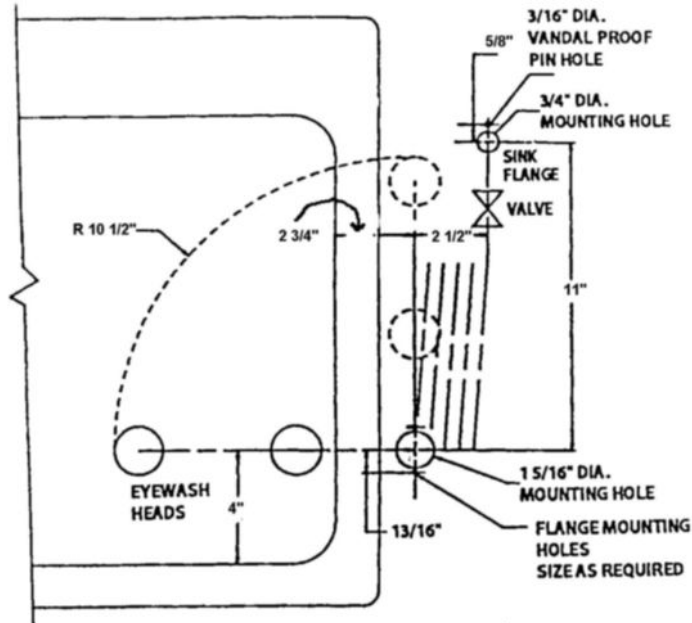

FIGURE 2
NOTE: Refer to the installation layout diagram Figure 2.
2. Locate eye/facewash counter top flange through hole (previous drench hose location – right side of sink) or drill new hole ($\frac{3}{4}$ ") off back right edge of sink (see Figure 2).